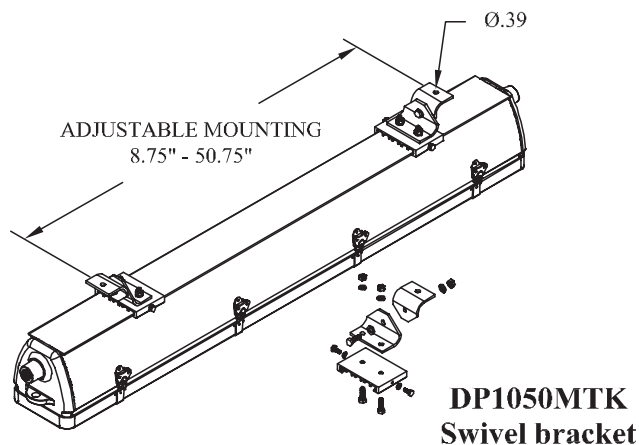

Figure 7. DP1050MTK Swivel Mount Installation
2. Mark and drill holes for fastening swivel brackets. Use two (2) 1/4" bolts (not supplied) at center to center measurements. For swivel brackets, holes may be spaced as required. It is recommended to keep them at least 12" (305mm) apart (see Figure 7).
3. Fixture is now ready for mounting. It is strongly suggested to use two (2) qualified tradespeople to proceed with the final mounting of the fixture. This is recommended to avoid any personal injury or damage to the fixture.